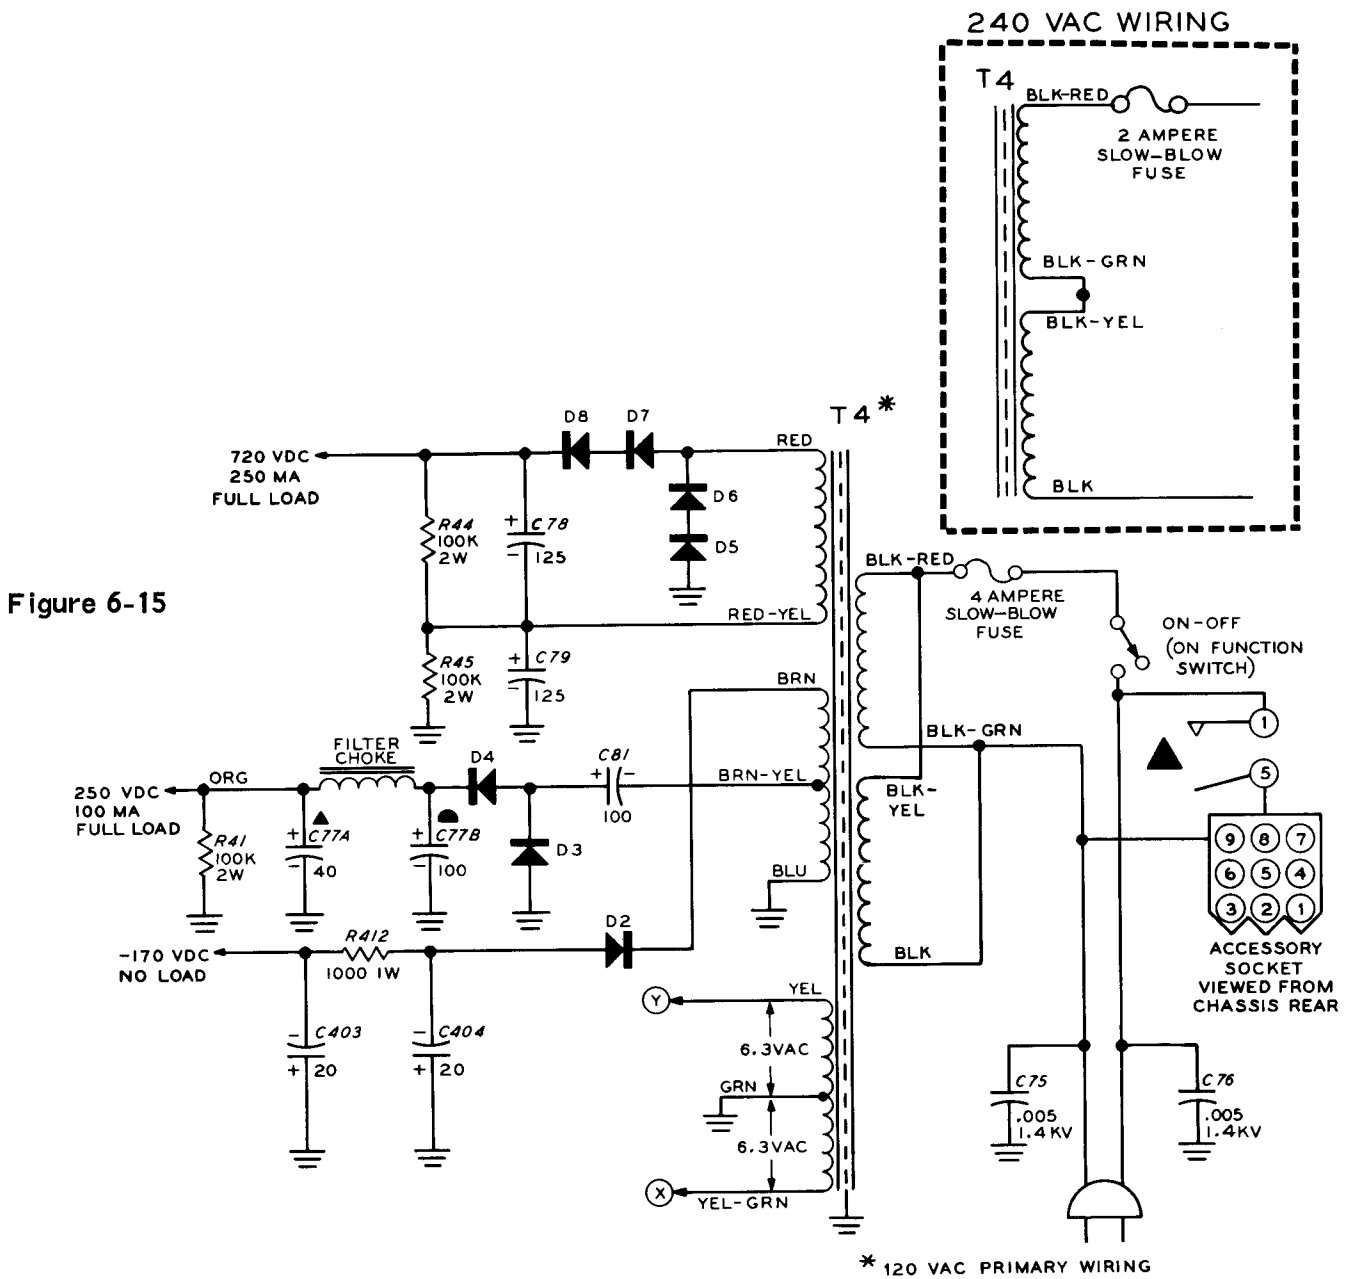

Figure 6-15
**POWER SUPPLY (Figure 6-15)**